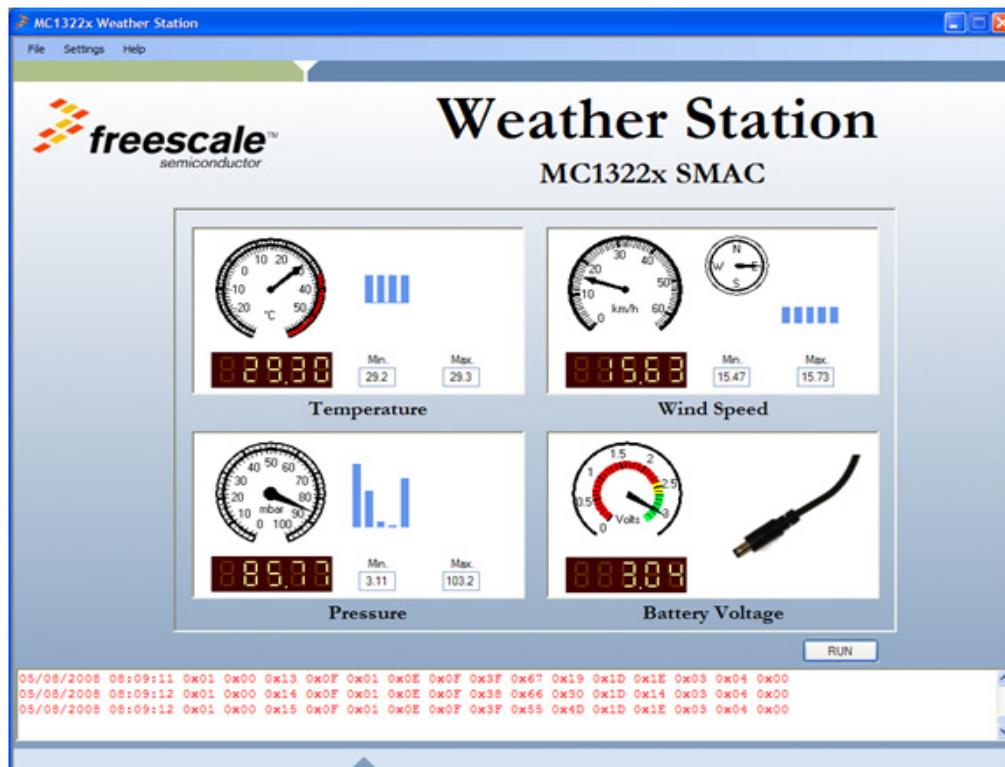

Figure 9-13. Weather Station Running from a Log File
6. The application starts as shown in Figure 9-13.